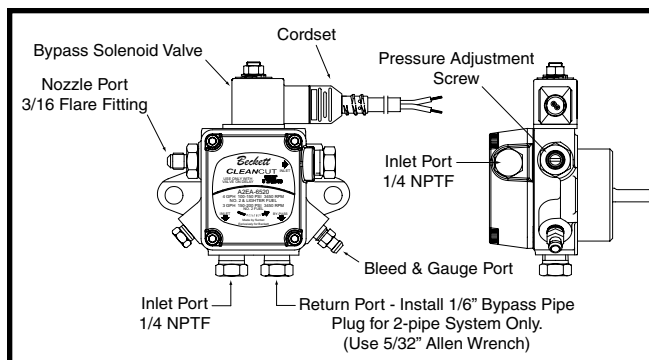

Figure 15. Oil Pump
2. Attach 1/4" I.D. plastic tube over the end of the airbleed valve on the oil pump as shown in Figure 15. Place the other end of the tube in a large container.